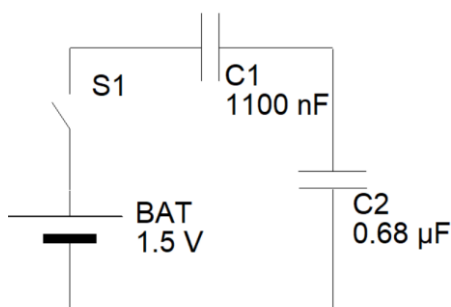

Figure 6: Circuit 5
- b. Find the total capacitance of the circuit shown in Figure 6 below. Show all your working.